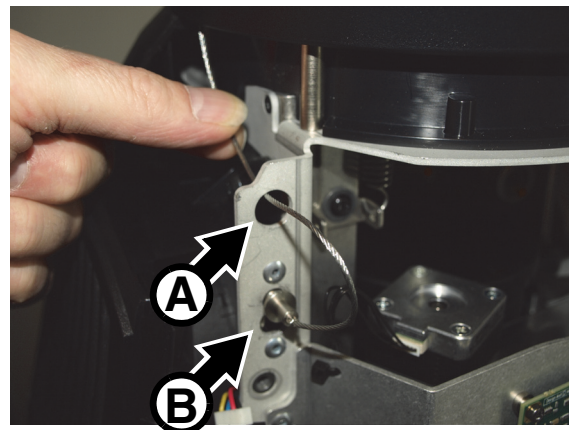

Figure 6
12. See Figure 6. Pass the Beam Kit's safety wire through the hole **A** in the head chassis and then into the safety wire attachment point **B**. Push and slide the fastener so that it is locked into the attachment point.